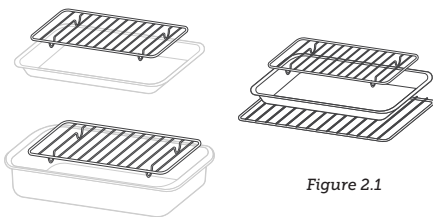

Figure 2.1
[**Figure 2.1**]
*See **Figure 2.1**, page 11.